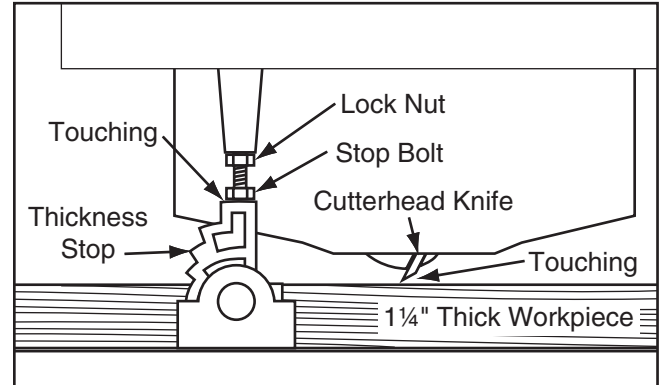

Figure 42. Thickness stop adjustment.
- Locate the thickness stop bolt and lock nut. Manually rotate the thickness stop to the position shown in **Figure 42**.